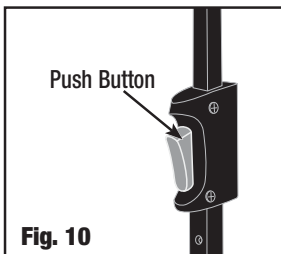

Fig. 10
- Lower the frame one post at a time by pressing the push button locks located on lower portion of posts. (Fig. 10)